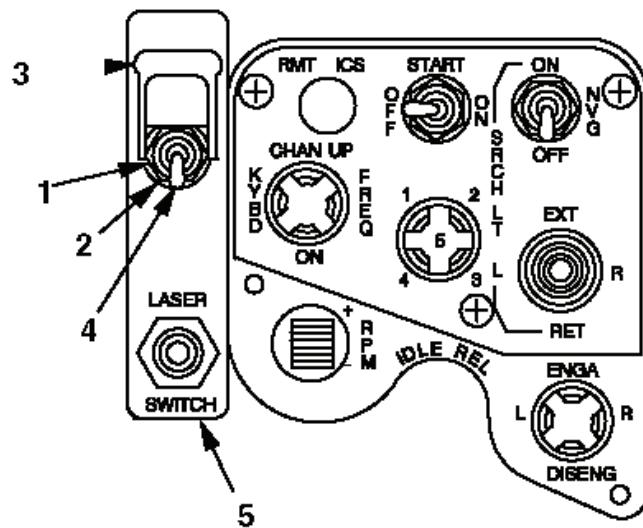

Figure 11
- (17) From underneath aircraft, clean area where cable assembly entered the aircraft using isopropyl alcohol.
- (18) Cover hole with masking tape.
- (19) Insert Episeal 10-10 (Metal Set or equivalent) through tape using syringe.
- (20) Sand area after drying.
- (21) Prime using MIL-PRF 23377 epoxy primer and paint the area.
- (22) Reinstall rear center console panel under collective.
j. Remove Cargo Release Switch. (See Figure 11.)
- (1) Cut wires connected to cargo release switch.
- (2) Remove nut (1), washer (2), and switch guard (3) from cargo release switch (4).
- (3) Remove cargo release switch (4) from switch support (5).
- (4) Cut shrink-wrap approximately 1/2 inch to expose cargo wires where they enter the collective.
- (5) Cut and cap wires and recover with existing shrink-wrap.
- (6) Fabricate a cover plate from 2024 sheet stock to cover area on switch support (5).